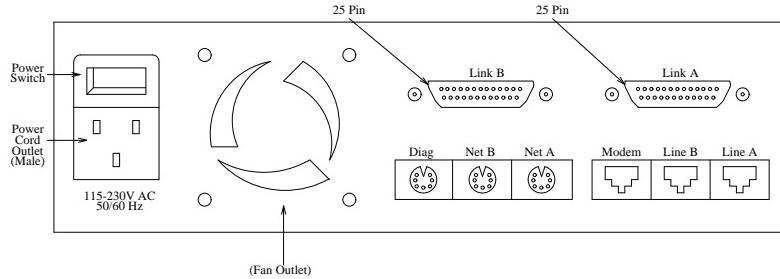

Figure 4-3. Back View of the SID
1. Connect one end of the Null cable to the 25-pin **Link B** on the SID, shown in Figure 4-3.
1. Connect the 25-pin RS-232 connector to **Link A** on the back of the SID. Figure 4-3 shows you the location of Link A.
1. Plug the female end of the power cord into the AC power-in socket on the SID, shown in Figure 4-3.
3. Locate the power switch on the back of the SID, shown in Figure 4-3.